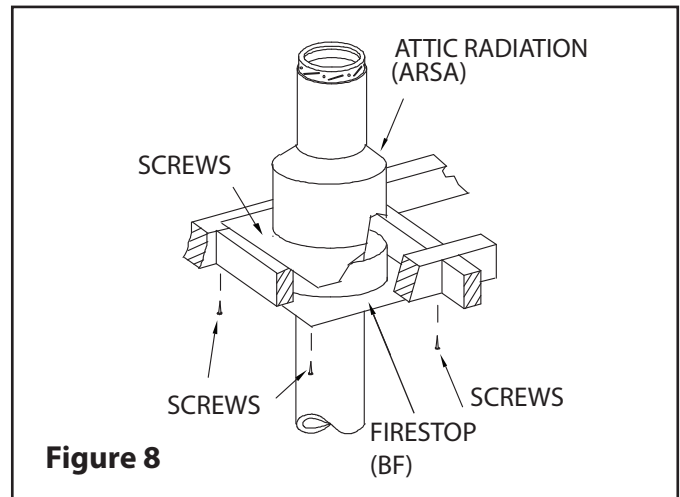

Figure 8
Step 5. From below, install a Firestop (BF) in each floor through which the chimney passes.
Step 7. At the attic level, install a Firestop (BF) on underside of frame at ceiling. The Attic Radiation Shield (ARSA) must be installed on its baseplate atop the frame from above (see **Figure 8**).